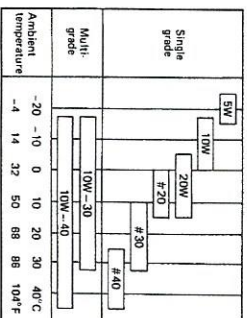

Figure 2-2: Oil Viscosity Grade-to-Temperature Recommendations
- B. Other viscosity grades (see Figure 2-2) may be used when the average temperature in your area is within the indicated range.